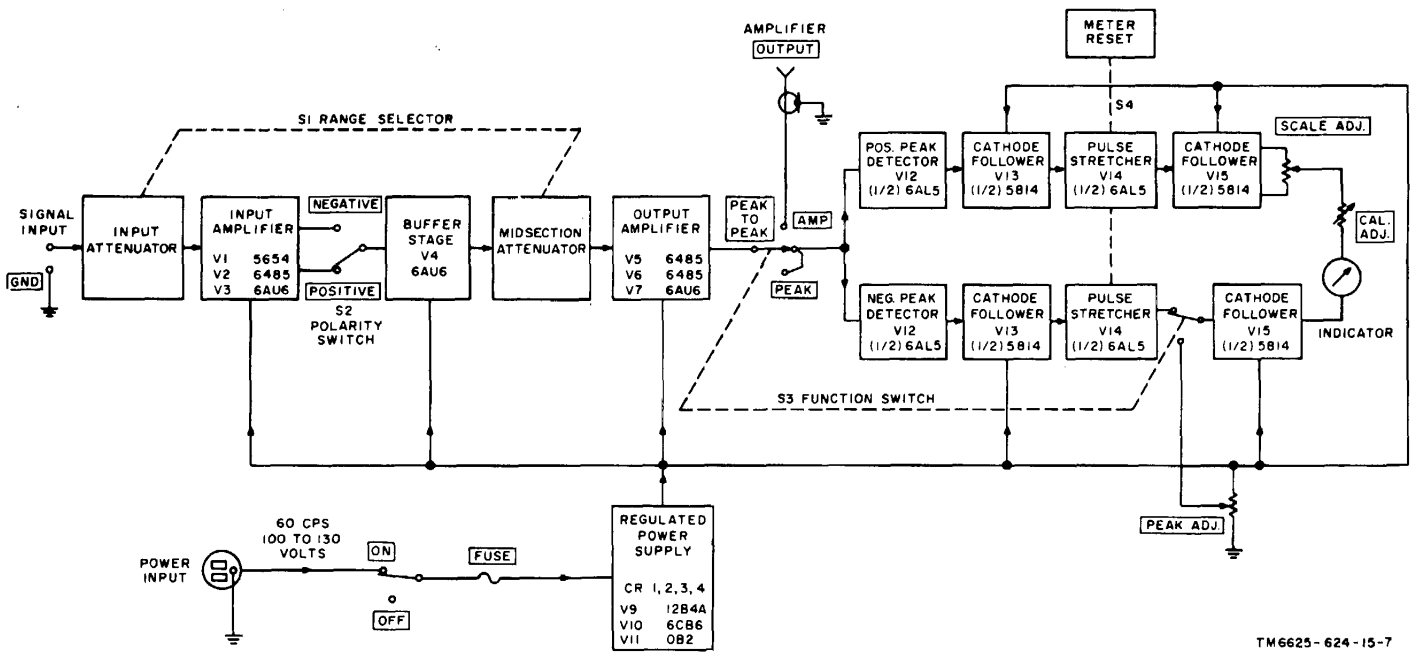

Figure 5-1. Voltmeter ME-262/U, block diagram.
(fig. 5-1)
e. *Output Amplifier (fig. 5-1).* The output amplifier is similar in nature to the input amplifier in that it contains a feedback loop to give it the necessary bandwidth gain characteristics. In addition, this feedback makes the instrument less sensitive to inherent noise signals. Vacuum tubes V5 and V6 are the voltage amplifiers followed by an output cathode follower stage. A single-pole triple-throw function switch (S3) will provide a choice of an output to the internal metering circuits or to an external OUTPUT load.